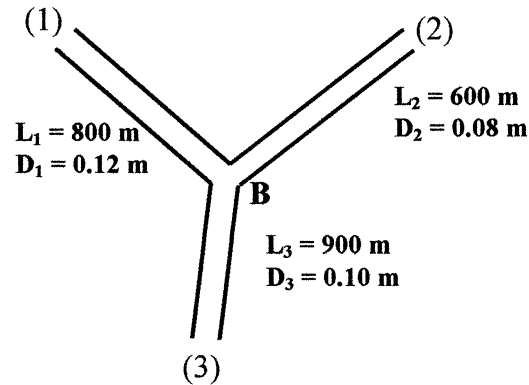

Fig. P6.125
**6.125** Suppose that the three cast-iron pipes in Prob. 6.120 are instead connected to meet smoothly at a point B, as shown in Fig. P6.125. The inlet pressures in each pipe are:  $p_1 = 200$  kPa;  $p_2 = 160$  kPa;  $p_3 = 100$  kPa. The fluid is water at  $20^\circ\text{C}$ . Neglect minor losses. Estimate the flow rate in each pipe and whether it is toward or away from point B.